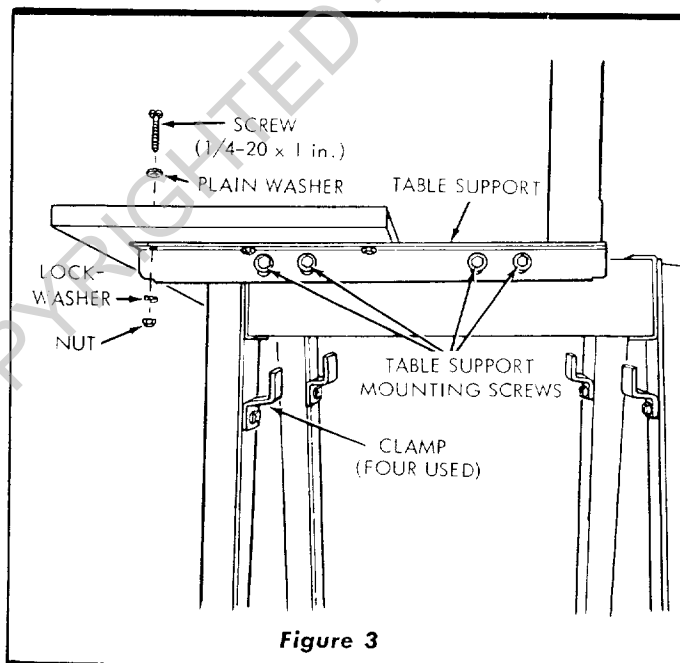
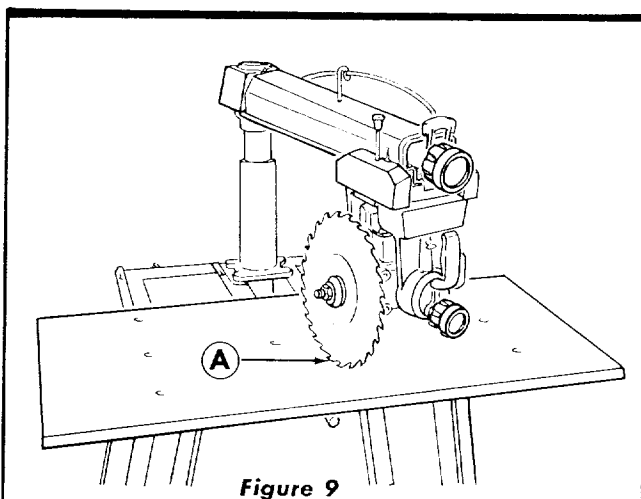
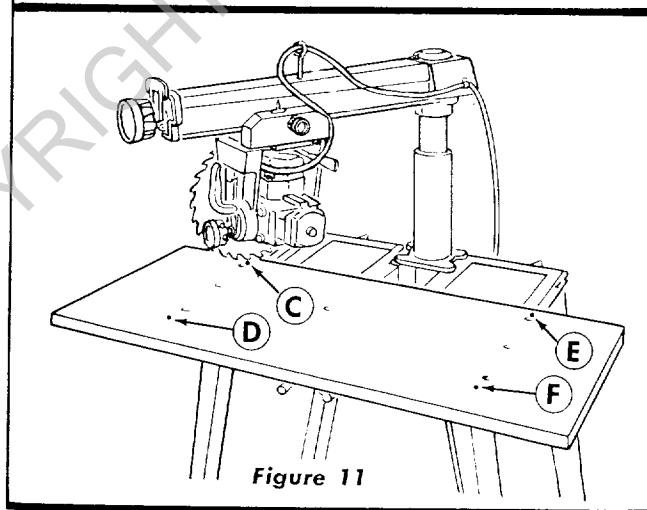

Figure 3
Figure 9
Figure 11
1. Place the large front table board on table supports so that holes in board match holes in supports. (See figure 3.)
- Recheck . . . and, if correct, tighten all table hold-down screws. (See figure 3.)
- Loosen table support mounting screws (figure 3) both left and right sides of the base. Re-tighten to finger tightness for adjustment of table.
- Loosen arm latch handle (22, figure 20) enough to obtain free movement of radial arm. Release arm latch lever (1, figure 20), and loosen carriage lock knob for easy movement of motor and carriage assembly during this operation. Move the motor and carriage assembly out to the end of radial arm and lower the saw blade until it just touches the table at point A, which is the front central position. (See figure 9.)
- Move the blade to the left-rear of table at point C and tap table up or down as required. (See figure 11.) Then move blade to point D and adjust table as required. Tighten screws in left-hand table support angle when height is correct. (See figure 3.)
- Move the saw blade to all six positions to recheck proper leveling of table. (See figures 9, 10 and 11.) Make slight corrections if required, and make sure all support mounting screws are tight. (See figure 3.)